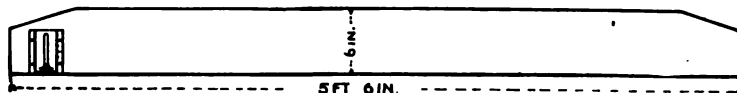
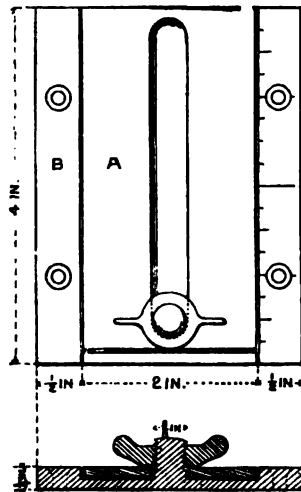

FIG. 24.—LEVEL BOARD.
FIG. 25.—LEVEL BOARD SCALE.
**Level Board** (Fig. 24), is 6 × 1 in. by 5 ft. 5 in. long, with a cast iron slide at one end, as shown in detail in Fig. 25. The plate A slides on plate B, but can be held at any point by tightening the